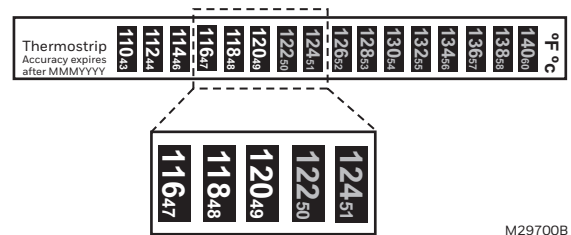

Fig. 9. Thermostrip.
- To Increase mixed water supply temperature:** Push in and rotate the hand wheel counter-clockwise until the desired set point is reached as indicated on the thermostrip reading (see Fig. 9). Ensure the hand wheel snaps back to a locked position once desired set point is reached.
- To Decrease mixed water supply temperature:** Push in and rotate the hand wheel clockwise until the desired set point is reached as indicated on the thermostrip reading (see Fig. 9). Ensure the hand wheel snaps back to a locked position once desired set point is reached.